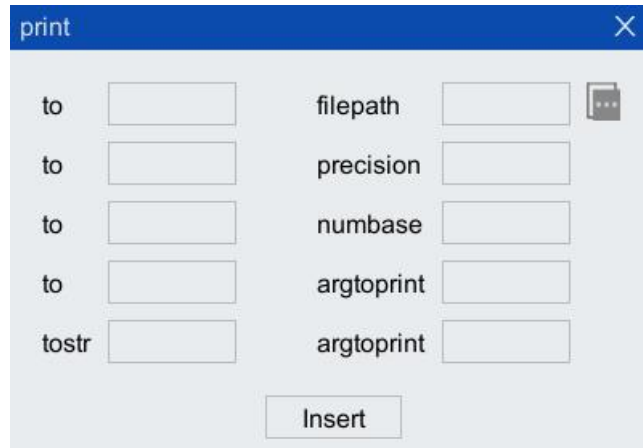

Figure 5-44 "Print" Instruction configuration interface
Step1. Click "Insert Cmd> auxiliary instruction> Print" option in the toolbar of the program editor to pop up "print" instruction interface, as shown in Figure 5-44.